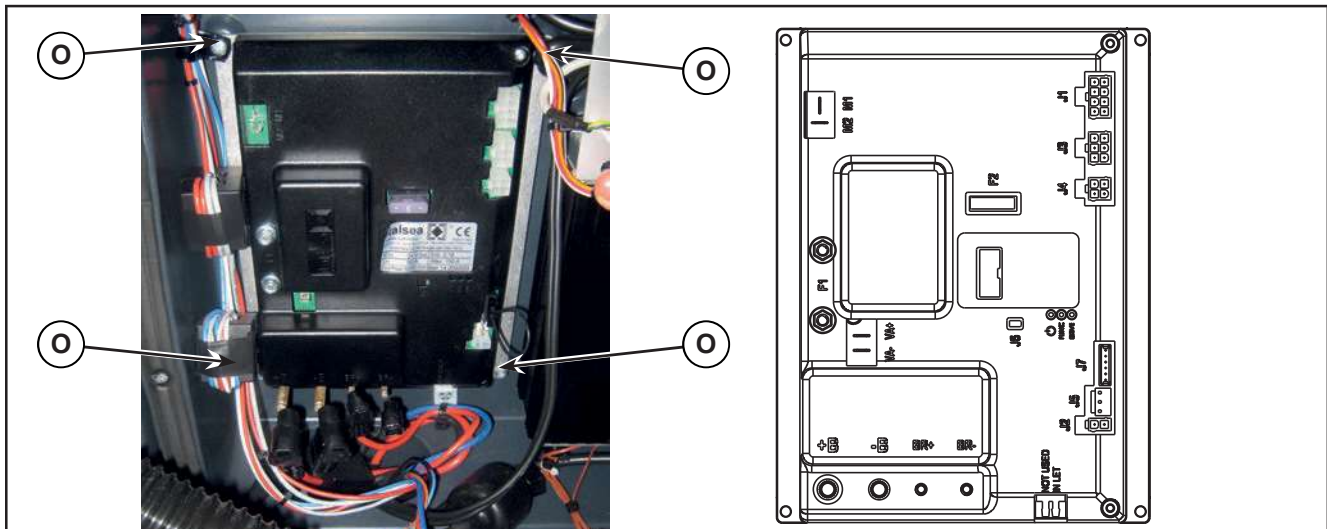

Figure 15:
7. Unscrew the 4 retaining screws (O) and carefully remove the Main machine controller (Figure 15).